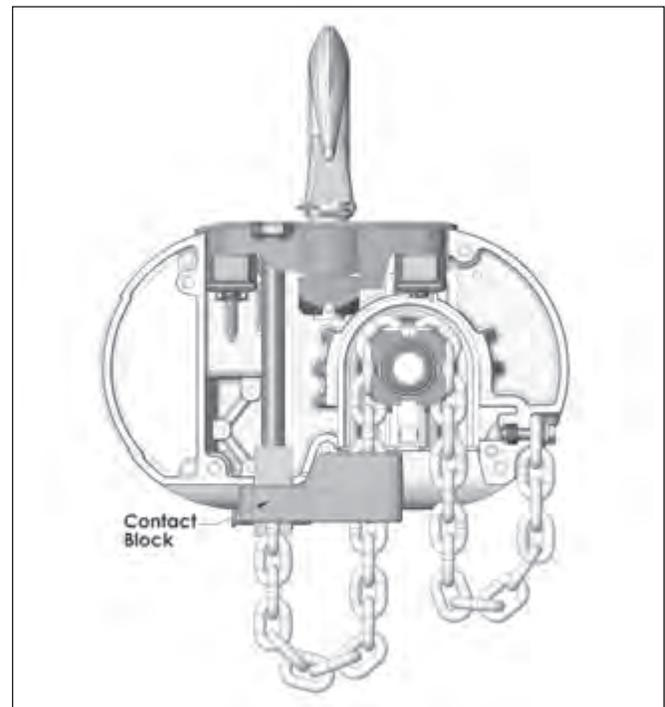

Figure 8. Contact Block Used on Models R, R-2, RR and RR-2
2. On Models E, E-2, H and H-2, insert the last link of the load chain into the dead end block (2) and secure it with the dead end pin, washer and cotter pin furnished with the suspension.
3. On Models R, R-2, RR and RR-2, slide the contact block up the chain until it is against the bottom of the hoist and the dead end block is projecting through the square opening in the bottom of the block. Push the contact block up slightly and secure the load chain to the dead end block using the dead end pin, washer and cotter pin furnished with the suspension. The dead end pin also supports the contact block (See Figure 8)